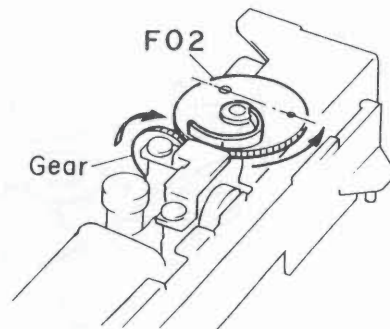

Fig. 2.15.2
- (3) Turn the Emergency Gear in reverse until the marks on F02 (Loading Plate Cam SL) are almost aligned as shown in Fig. 2.15.2. (This operation is required to return to the mechanism in Standby state.)